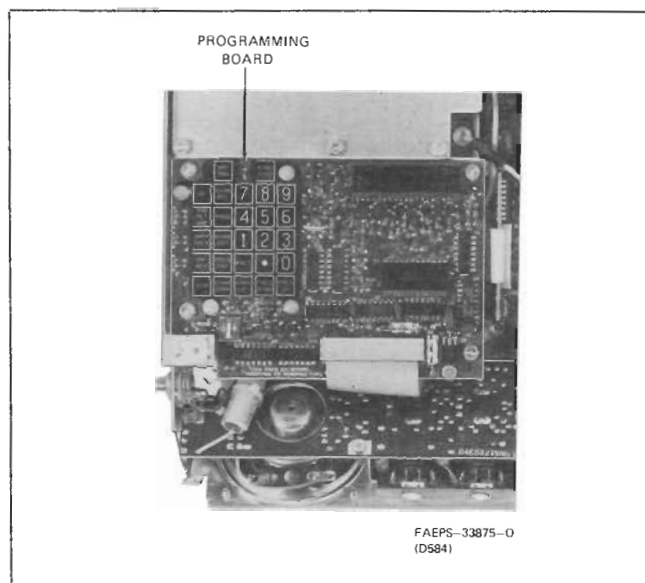

Figure 3. Properly Installed Programming Board
Step 5. Fasten the programming board and shield in place with the four screws previously removed from the programming shield. Refer to Figure 3.